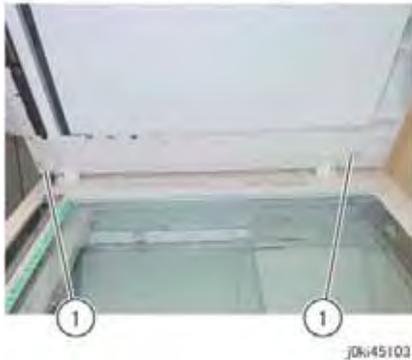

Figure 3 Releasing Hooks
5. Release the hooks of the DADF Rear Cover. (Figure 3)